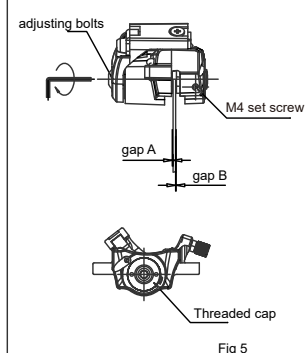

Fig 5
- ☆ a. The M4 hex socket head cap screw is not allowed to be loosened to adjust the brake pad clearance by adjusting the thin-headed screw (Fig. 5).